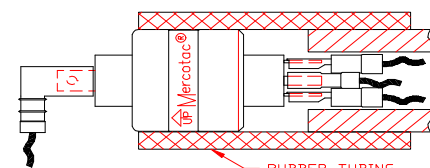

Fig 5 Vibration Isolation
7. Vibration and mechanical shock will reduce service life or cause connector failure. Some installations may require a shock isolating mounting, such as rubber tubing. <Fig 5>